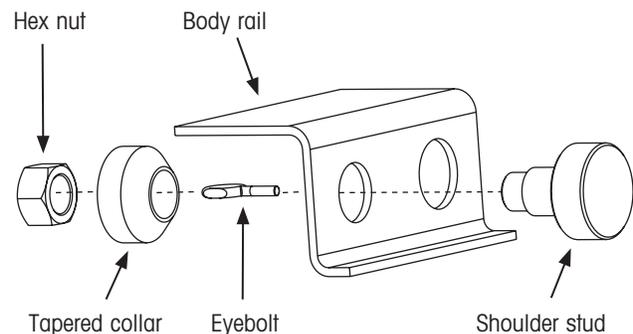

Figure 16: Installing the body rail alignment tool
2. Install the eyebolt on the inboard side of the body rail and thread the shoulder stud onto the eyebolt from the outboard side of the body rail (Figure 16).